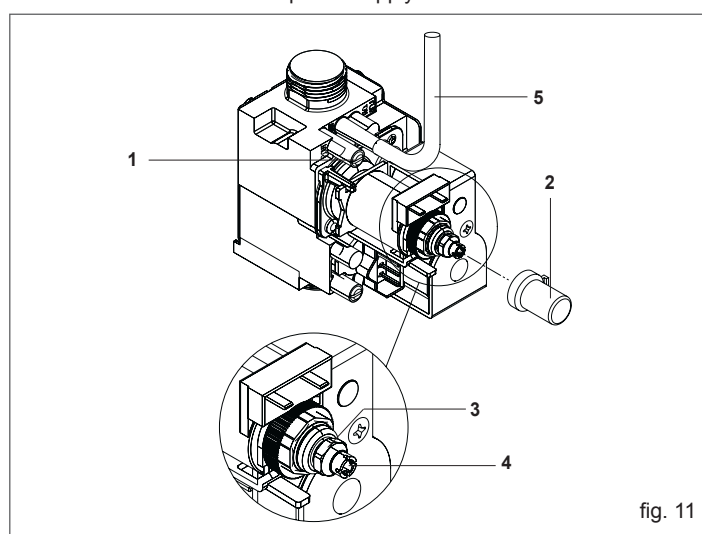

fig. 11
- Loosen the pressure tapping point screw (fig. 11 - 1) located downstream of the gas valve by approximately two turns and connect a pressure gauge there.
- Disconnect the compensation inlet (fig. 11 - 5) from the gas valve.
- Remove the protective cap (fig. 11 - 2).
- Screw the nut (fig. 11 - 3) fully until obtaining the gas pressure shown in the table.
- screw or unscrew the hex head socket screw (fig. 11 - 4) to adjust the minimum until obtaining the gas pressure value shown in the table
- refit the protective cap (fig. 11 - 2).
- Reconnect the compensation inlet to the gas valve (fig. 11 - 5).
- Disconnect the pressure gauge and retighten the pressure tapping point screw (fig. 11 - 1).